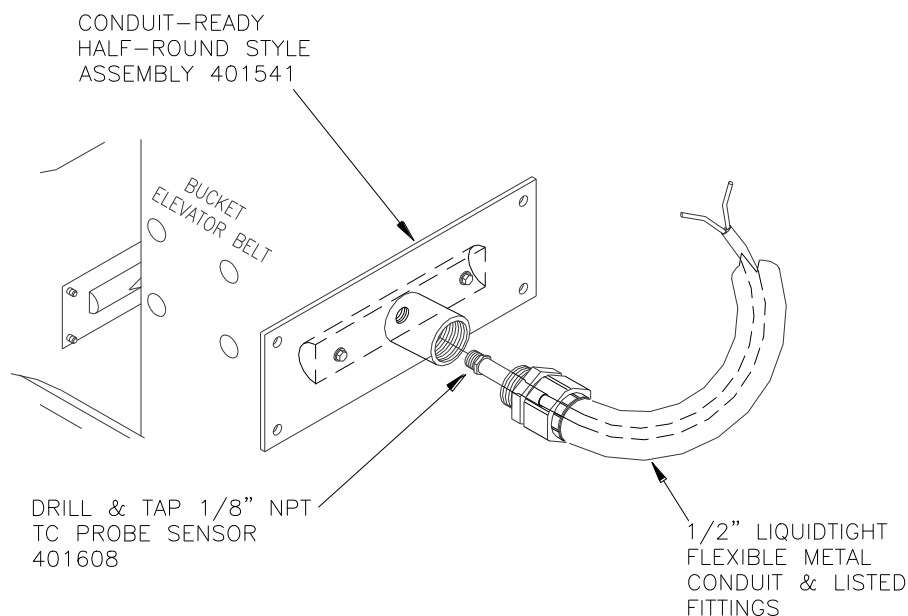

Figure 13. Rub Block & Drill & Tap 1/8-Inch NPT Probe Sensor
**4.6.1. Belt Alignment Rub Block:** (401541) A "RUB" includes a conduit-ready (1/2-inch size) coupling welded to a mounting plate. A half-round block of brass stock is bolted to the plate. It is prepared to accept the Drill & Tap Type Temperature Sensor. (See figure 13).
**4.6.1.2.8.** After you have made the appropriate size hole in the leg casing to accommodate the rub block, you can install the Drill & Tap Sensor into the predrilled and tapped 1/8" NPT hole provided in the rub block. (See Figures 13 & 17).